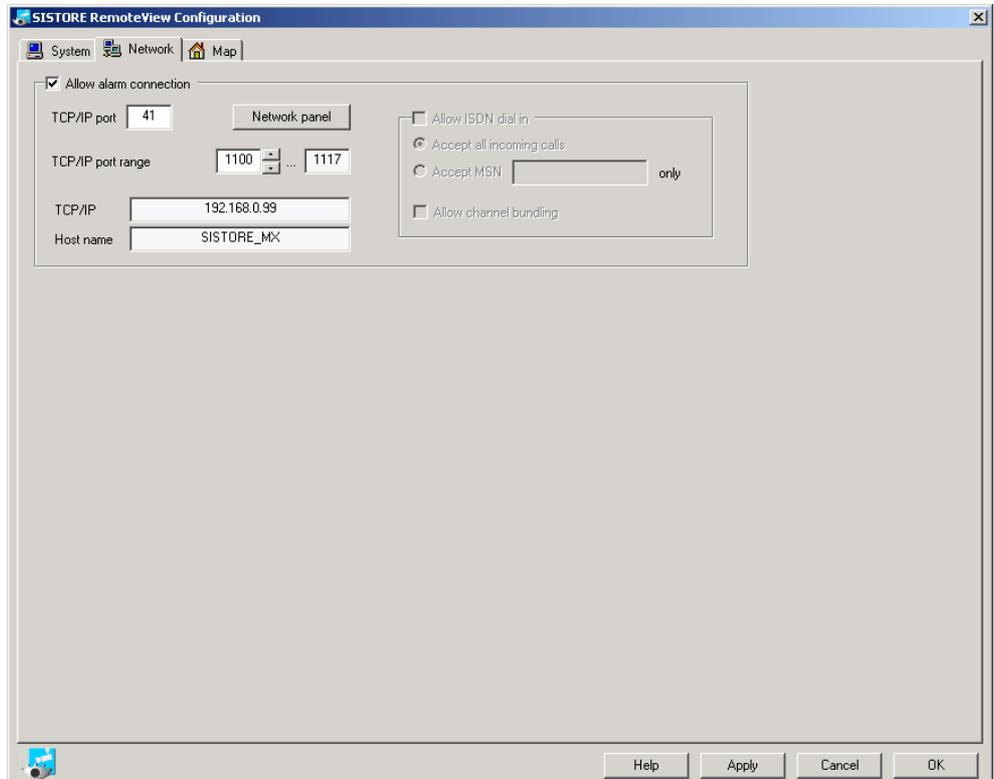

Fig. 135 Network tab
1. Select the Network tab (see "Fig. 135", page 161).